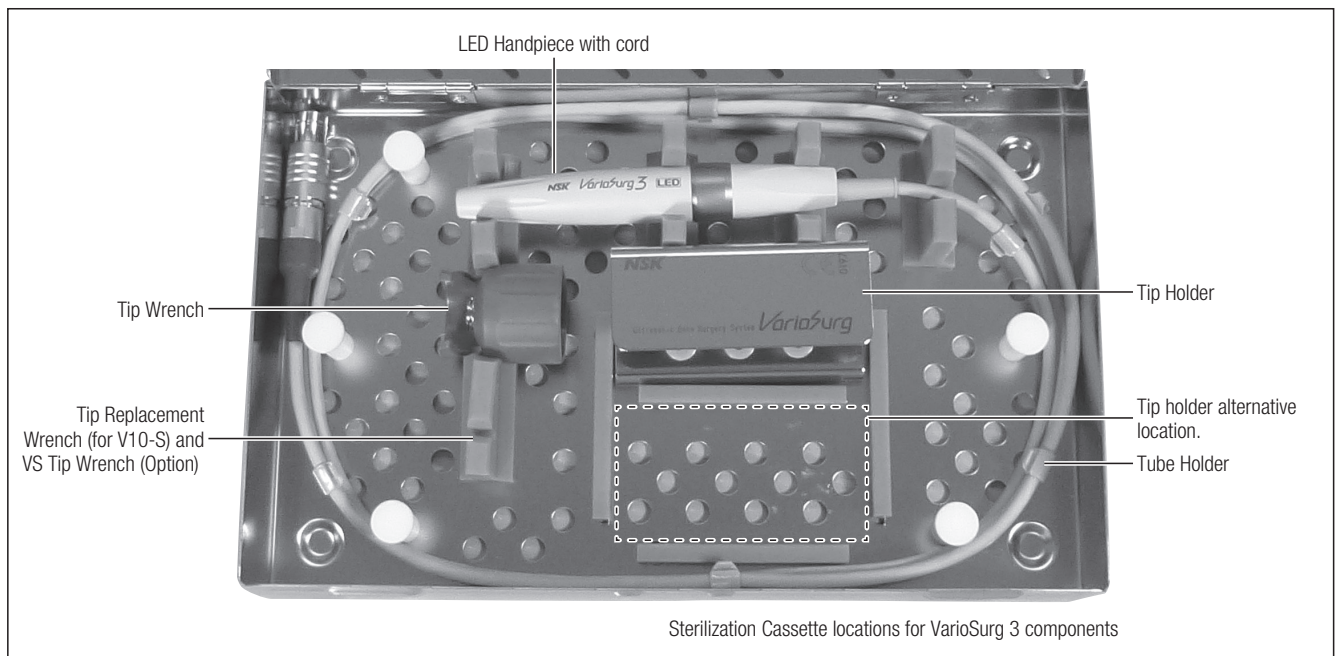

Fig. 23
- 1) Place the Handpiece and Tip Wrench in the Sterilization cassette. (Fig. 23)